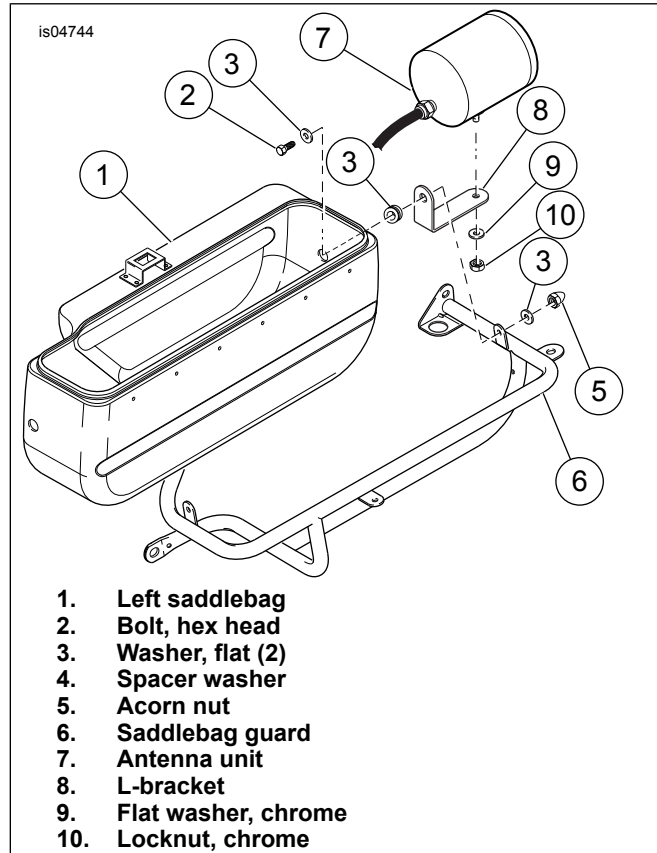

Figure 9. Rear Antenna Mount - FXDP
2. See Figure 9. Remove the nut (5), washers (3), spacer (4) and bolt (2) attaching the rear of the left saddlebag (1) to the saddlebag guard (6). Discard the spacer.
3. Slide the L-bracket (8) into place between the saddlebag and the tab on the guard. Replace the nut, washers and bolt, but do not fully tighten at this time.
4. Mount the antenna unit (7) to the L-bracket with the chrome flat washer (9) and locknut (10). Position the L-bracket as desired, then tighten the nut and bolt securely. Aim the antenna unit and tighten the chrome locknut securely.